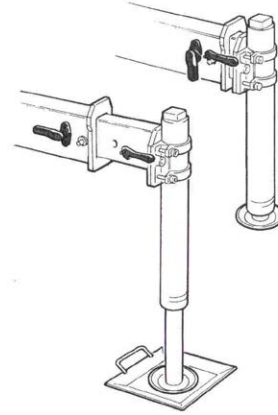

Figure 7.8: Deploying and locking stabilizers.
- Prior to taking the boom out of the cradle stowed position, stabilizers shall be properly deployed and locked, if so equipped by the manufacturer (Figure 7.8).